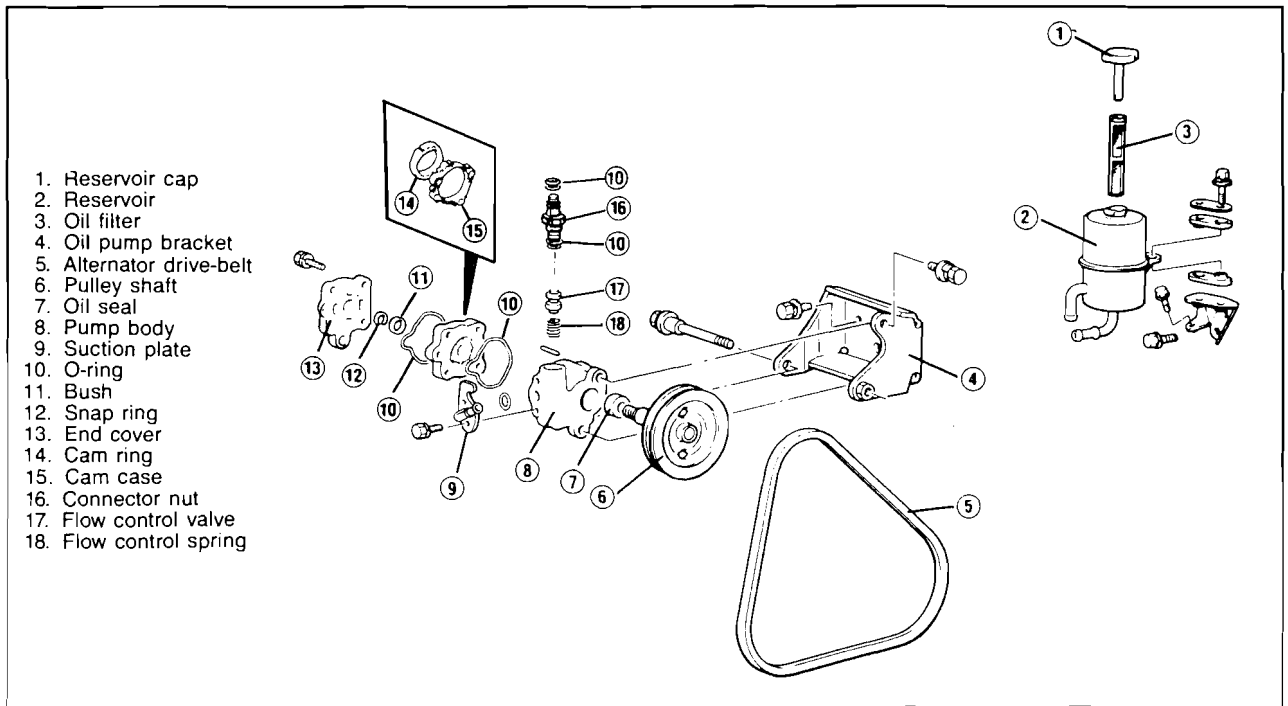

Fig. 6—Power steering oil pump components
(1) Lubricate the inner and outer rotors and install them into the pump case, ensure they rotate smoothly, install oil pump cover.
(2) Lubricate relief valve and install the valve (with the solid end of the valve towards the pump case) and spring into the bore. Install the plug and tighten to specified torque.
(3) Install the oil pump case assembly to the block, refer Fig. 6.